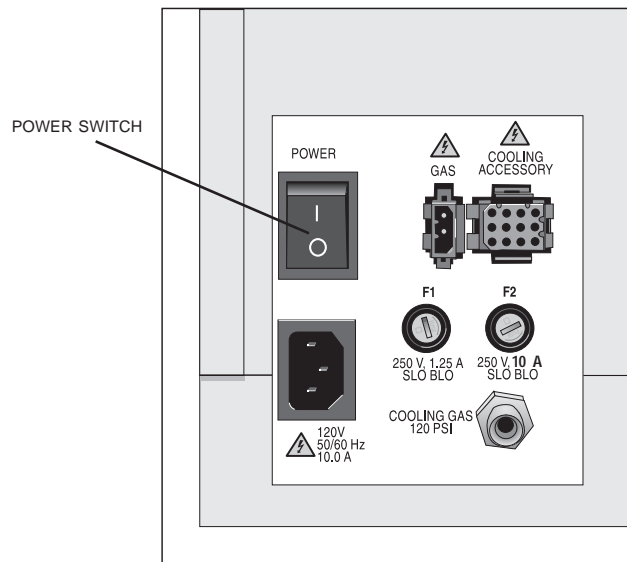

Figure 2.8
1. Make sure the 2010 instrument POWER switch (see Figure 2.8) is in the OFF (0) position.